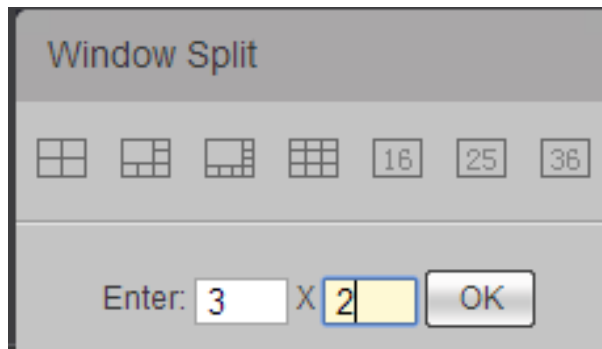

Figure 4-18
Step 1 Select a window and click . The system displays "Window Division" interface, as shown in Figure 4-18.